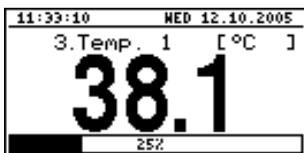

Fig. 6.3. "**Single channel**" mode
- "**Single channel**" mode (Fig. 6.3) enables the last measurement for one of the measurement channels to be viewed in the numeric and graphic form (bar).